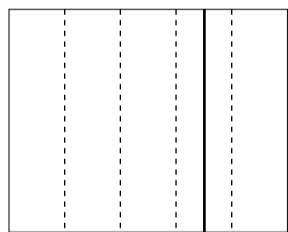

Fig 2e - Vertical Dovetail Tracks
- 2.5 Measure the sled base side to side in 4" (101.6mm) increments to lay out the vertical Dovetail Tracks [Fig 2e]. Shift all track lines left or right if a track line is closer than 1-1/2" to the center line marked in the previous step. Move all lines together keeping them 4" apart.